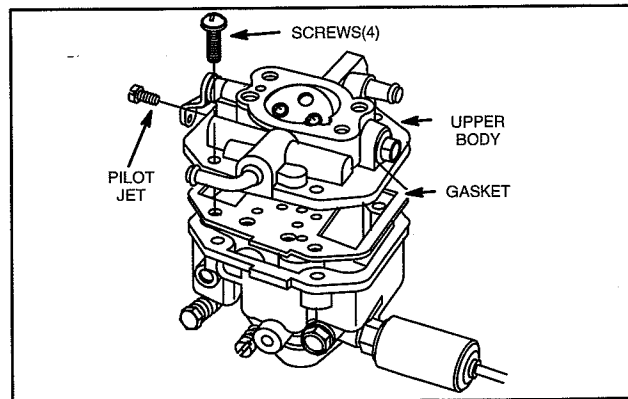

Fig. 99 – Remove Upper Body
2. Remove four screws and upper body, Fig. 99.